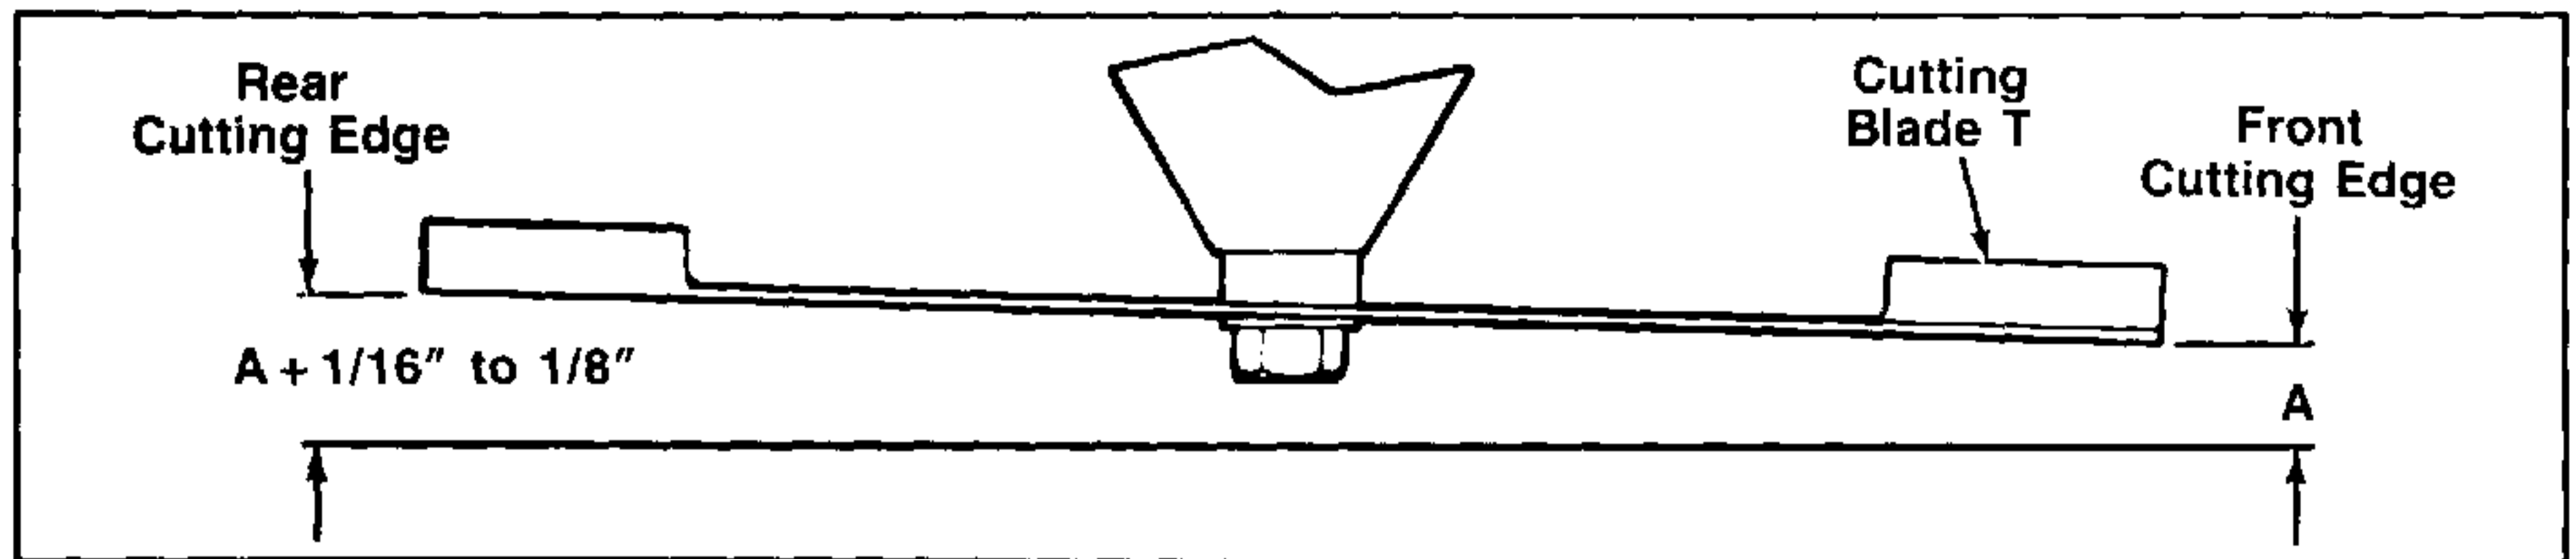

FIGURE 13.
5. Refer to figure 13. Measure and record the distance from the hard, level surface to the CUTTING EDGE at the front and rear of each of the blades. Hereafter, these measurements will be referred to as the cutting-edge-to-ground distances.
11. With the lift handle in position number 6, repeat and record the blade measurements described in step 5. Refer to your recorded cutting-edge-to-ground measurements. Each of the two blades must have a downward tilt toward the front of the tractor. A proper tilt is achieved when a blade's rear cutting-edge-to-ground measurement (measurement A+, figure 13) is 1/16 to 1/8 inch higher than that blade's front cutting-edge-to-ground measurement (measurement A, figure 13). If a proper tilt does not exist for one or both of the blades, refer to step 12.